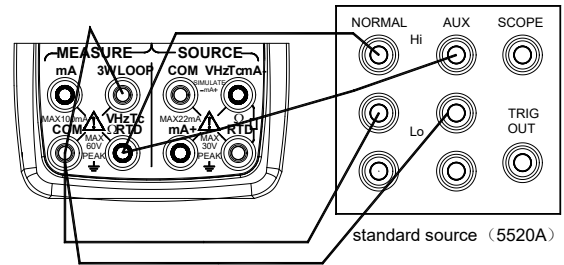

Figure 17 Adjusting all ranges of ohms
Step 3: Connect the lead cables to the output terminals of the standard source as shown in Figure 17.